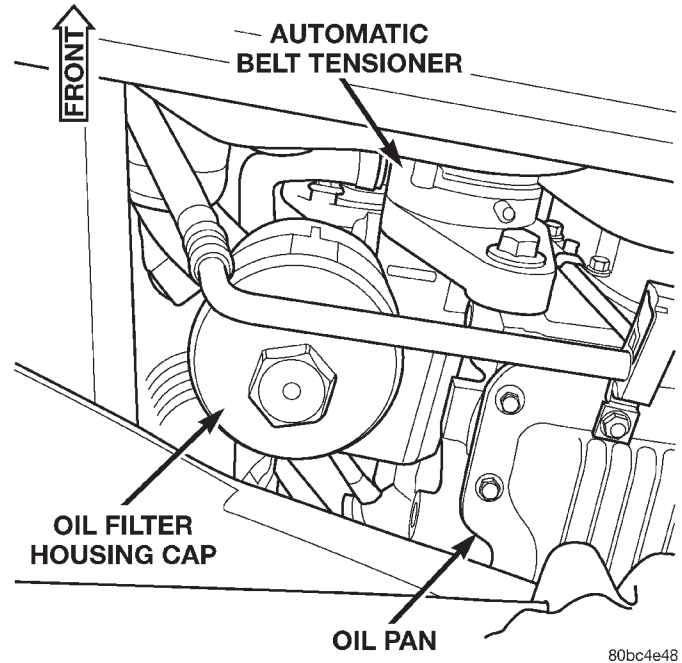

Fig. 94 Oil Filter Housing Cap
(2) Install the new filter element in the housing and install cap. Torque to 22.5 N·m (194in. lbs.) (Fig. 94).
(3) Install the oil filter housing drain plug. Torque to 12 N·m (106in. lbs.).
(4) Lower the vehicle on hoist.
(5) Fill the engine oil level to specification.
(6) Start the engine and check for leaks.